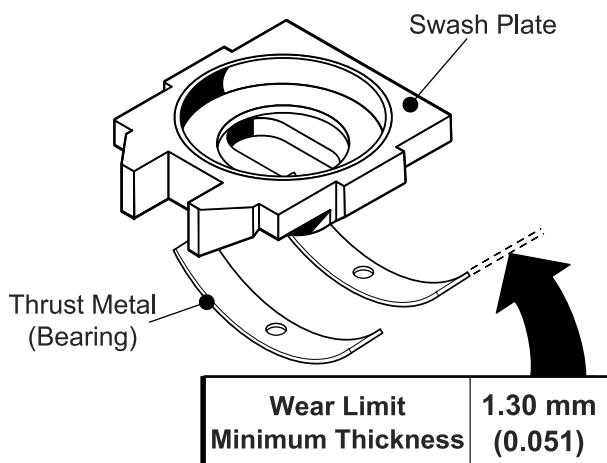

Fig. 39, Thrust Metals Tolerance
- Using calipers (digital recommended) measure the thickness of both Thrust Metals for wear. If the clearance is < 1.30 mm (0.051 in), replace Thrust Metals as a set. (Fig. 39)